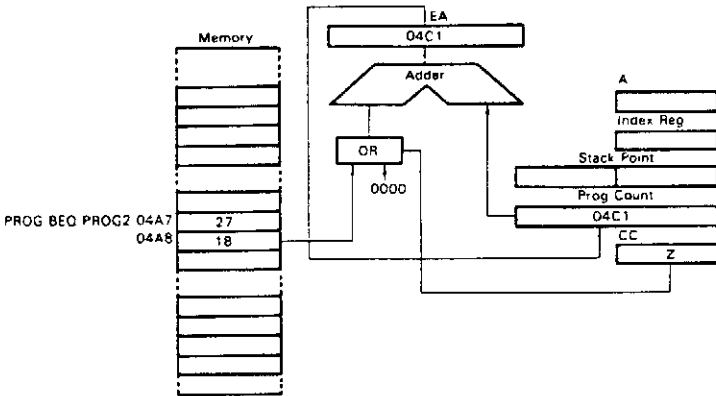

Figure 32 Example of Relative Addressing
See Fig. 32. The relative addressing mode is used with branch instructions only. When a branch occurs, the program counter is loaded with the contents of the byte following the operation code. EA = (PC) + 2 + Rel., where Rel. indicates a signed 8-bit data following the operation code. If no branch occurs, Rel. = 0. When a branch occurs, the program jumps to any byte in the range +129 to -127. A branch instruction requires a length of 2 bytes.